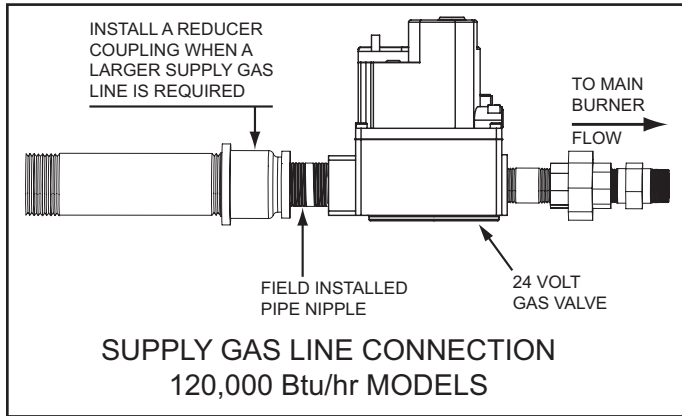

Figure 49
2. Depending on the developed equivalent length and/or the number of appliances connected to a common main, the size of the supply gas line may have to be increased, see Gas Line Sizing on page 37. If the supply gas line must be re-sized larger to accommodate increased supply gas line lengths or multiple appliances use reducer couplings and short pipe nipples to increase the supply gas line as shown in Figure 49.